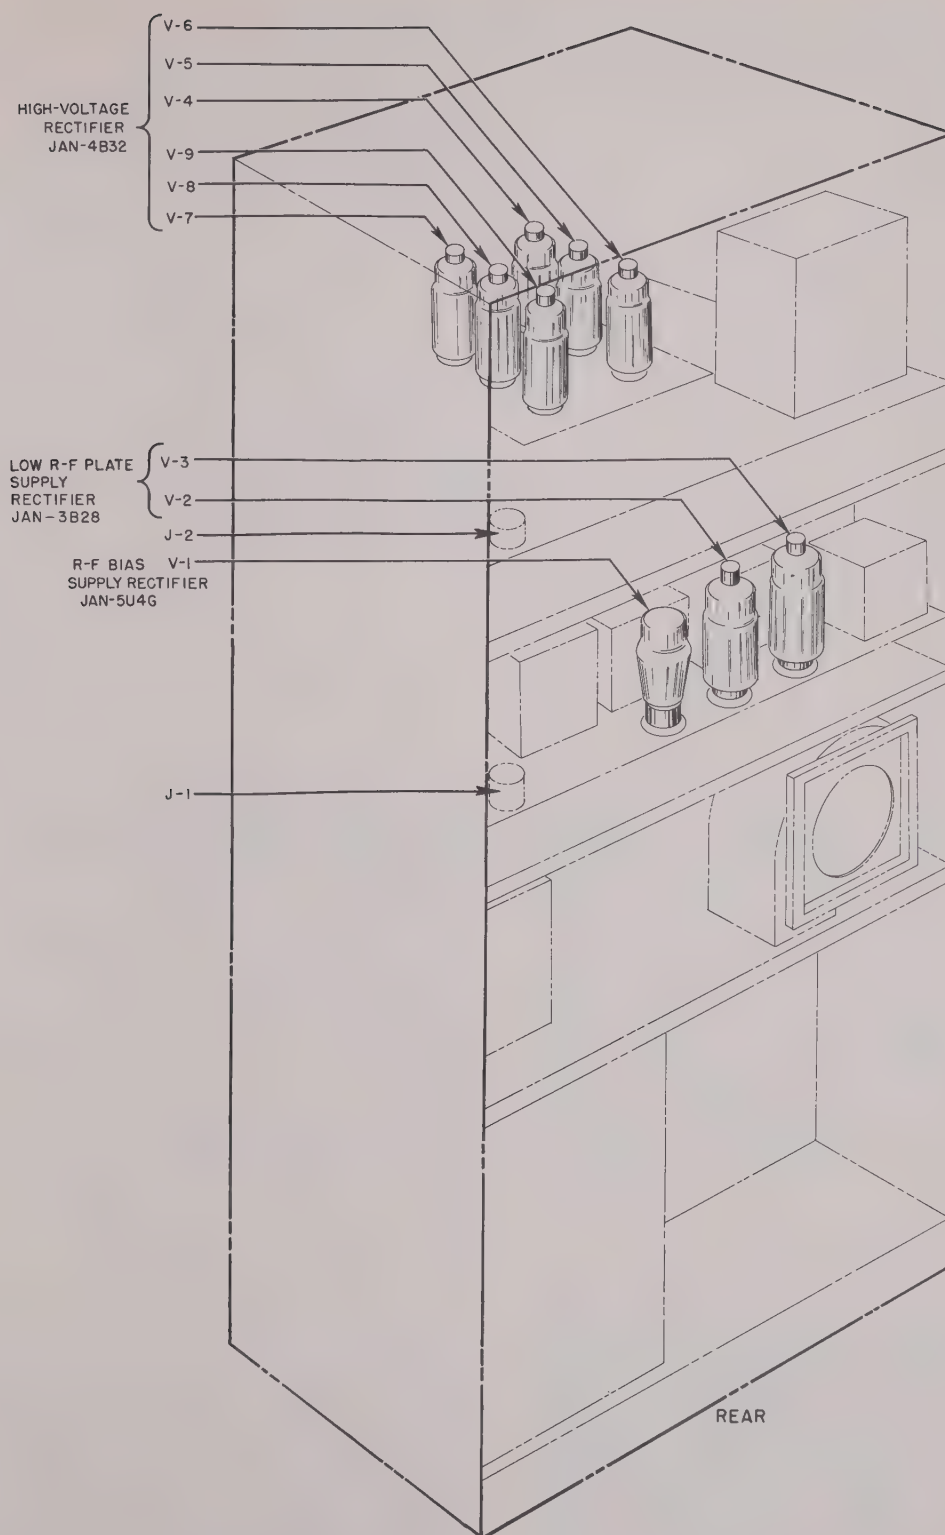

Figure 23. Rectifier Power Unit Model 36D, tube location diagram
e. Installation of Tubes (fig. 23). Remove the tubes from their containers and check to see that all are in good physical condition. The rectifier requires nine tubes, six rectifier Tubes JAN-4B32, two rectifier Tubes JAN-3B28, and a rectifier Tube JAN-5U4G. Install the tubes as follows:
(1) The high-voltage rectifier assembly requires six Tubes JAN-4B32. These tubes are installed from the front of the unit. Install the rear tubes first and make the plate cap connections as each tube is installed. Aline the pins on the tube with the slot in the tube socket. Push the tube in as far as it will go; then make a slight turn in a clockwise direction to lock the tube in the socket.
(2) Install all six tubes and be sure the connections to the caps are made securely. The wire which comes up through the chassis at the rear of the